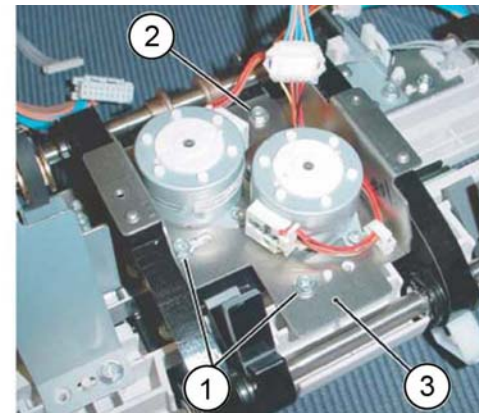

Figure 1 Tamper motor assembly removal
3. Remove the front/rear tamper motor assembly, Figure 1:
- a. Remove two self-tapping screws (1).
- b. Remove the screw (2).
- c. Remove the front/rear tamper motor assembly (3).